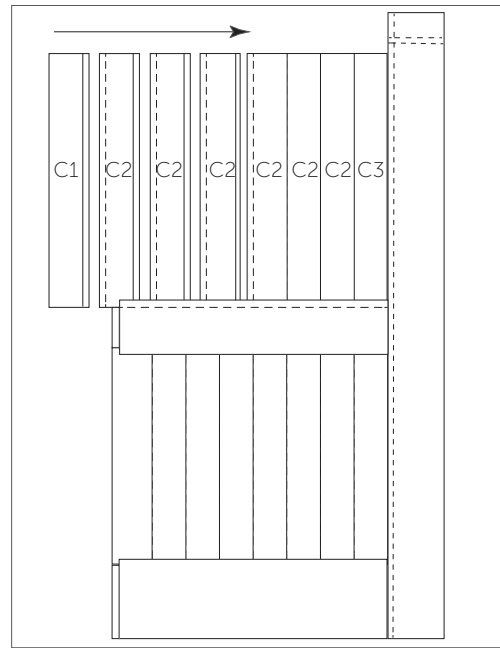

Figure 4
- Beginning with the upper right side slat (C3) slide the upper slats (C2) into the groove of the center rail (A3) one at a time, ending with the upper left side slat (C1). Tap each in place with the rubber mallet (Figure 4).